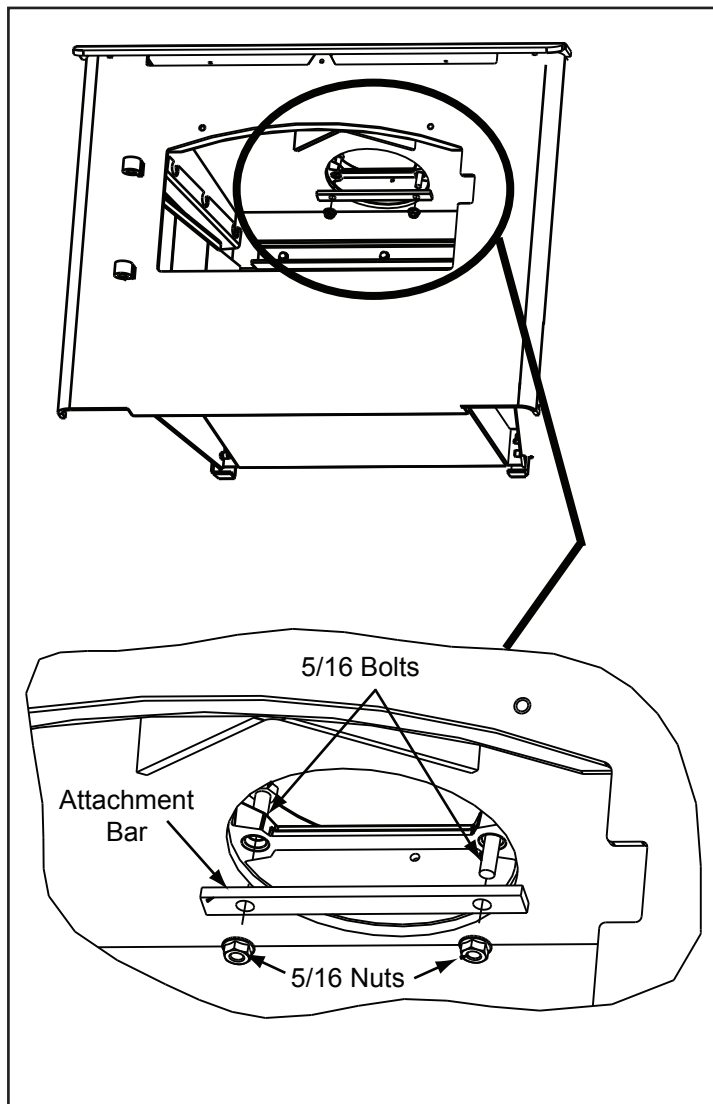

Figure 42.1
2. Reach up through the flue opening and grab the attachment bar and pull down inside flue opening. **Figure 42.1.**